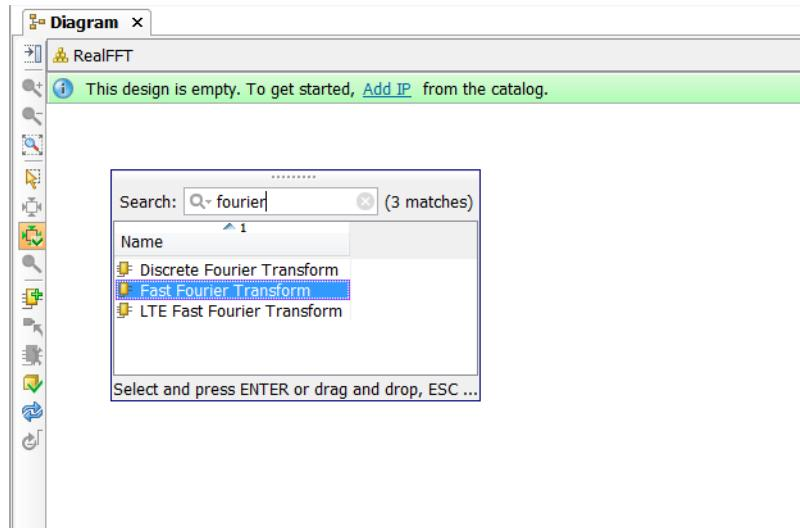

Figure 9-14: Add the Xilinx FFT IP
2. In the Diagram tab click the **Add IP** link in the “get started” message (Figure 9-14).